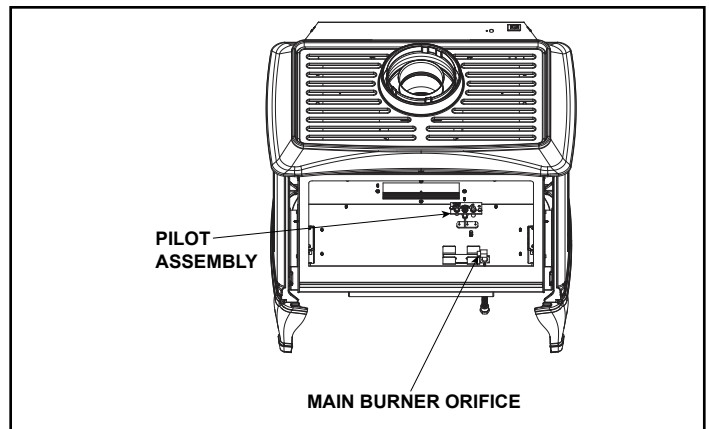

Figure 13.
14. Using the 3/8 in. open end wrench, replace the main burner orifice with the orifice included in the conversion kit. Use appropriate orifice for gas type. See Figure 13.